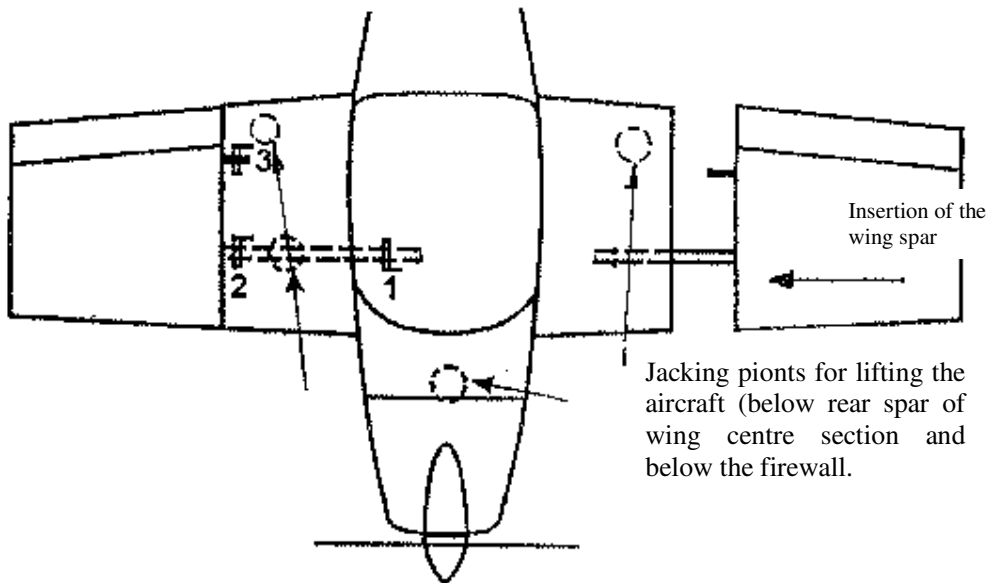

Fig. 3 Insertion of the wing spar into the wing centre section, position of the wing pins and the support points.
1. Fit the spar end of the right wing into the spar end (fork) of the wing central section and push the wing along its longitudinal axis so that a connection slot between the wing central section and the wing root is approx. 100 mm (Fig. 3). Connect the hoses from the Pitot-static tube and prepare and adjust the wing fuel tank hoses (connect the wiring for fuel tank conductive connection and position lights, strobe lights, if lights installed).
5. Pull out the wing along its longitudinal axis so that there is a distance between the wing and the wing root of approx. 100 mm (Fig. 3). Disconnect the hoses from the Pitot-static tube (disconnect the position lights wires etc, if lights installed).